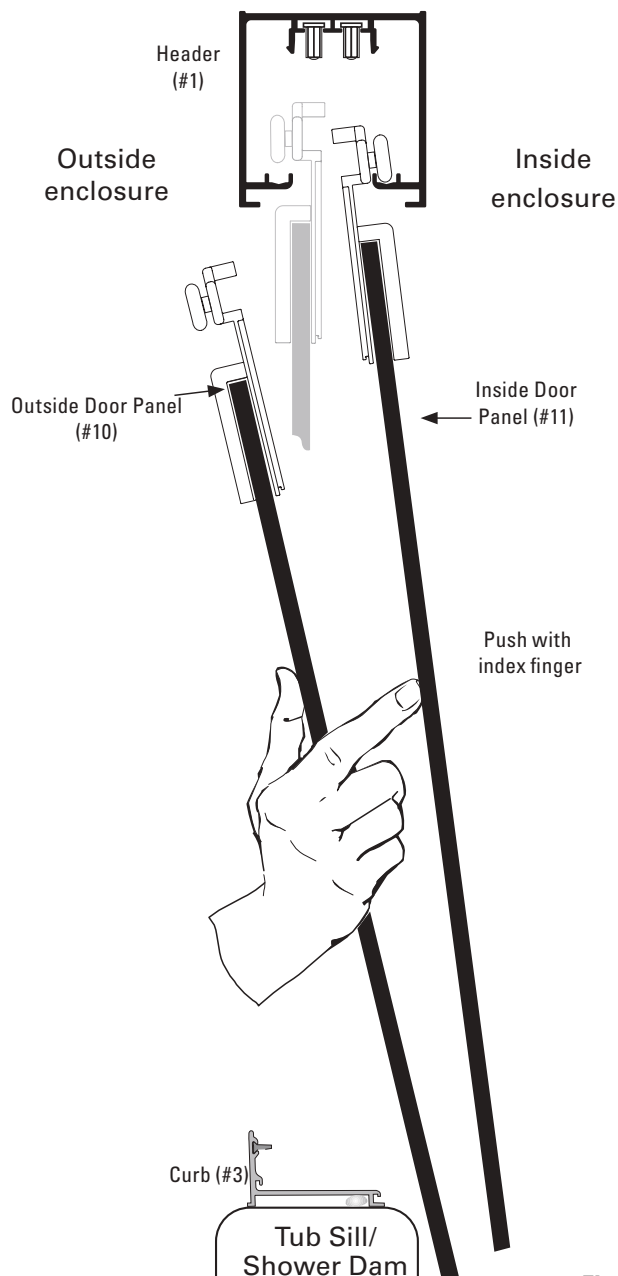

Figure 10
B. If someone is assisting you, have them hold the Inside Door Panel back, out of your way for this step. Hold the Outside Door Panel so that the Wheels are facing towards you. Standing outside and facing the shower enclosure, use the index fingers of both hands to carefully push the Inside Door Panel back and out of the way as you lift the Outside Door Panel up and over the Curb and then insert the Top Rail Wheel Assemblies up and into the Header (See **Figure 10**). DO NOT let the two Panels strike one another. Gently set the Wheels into the front track of the Header.